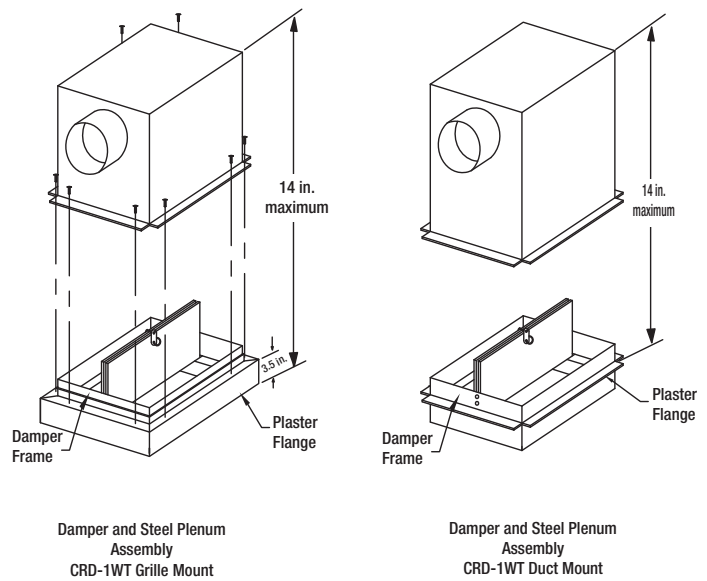

Figure 8
- 4) The steel plenum box is to be attached to the damper using a #8 screws,  $\frac{1}{8}$  in. (3mm) rivets, spot welds, or tack welds. Minimum of two per side (**Figure 8**).